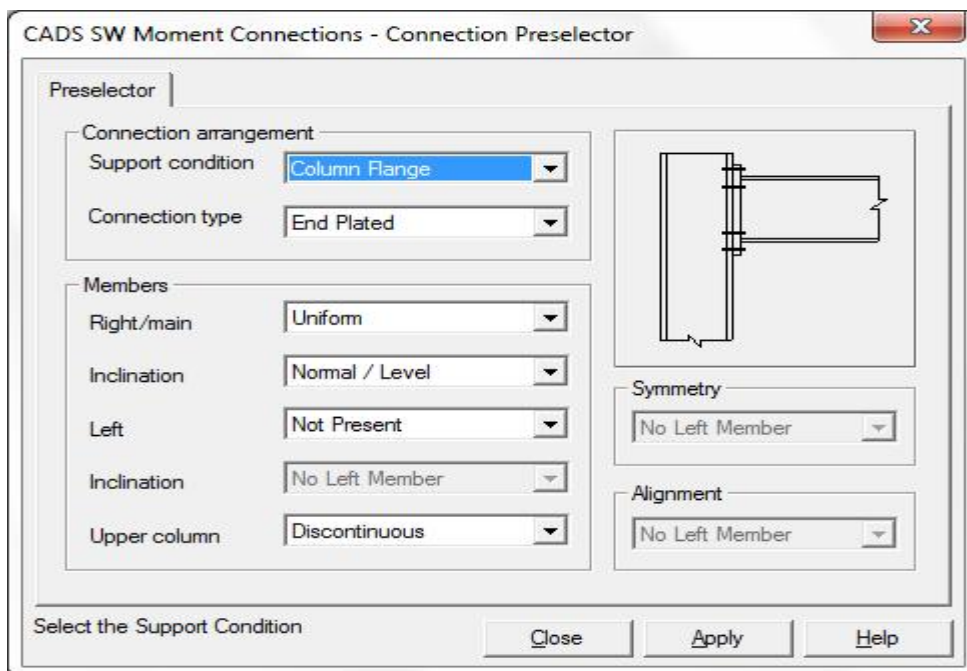

Fig 4.5 Connection preselector settings for example 1.
1. Open CADS SWMC > Connection preselector and accept the default settings as shown in fig 4.5